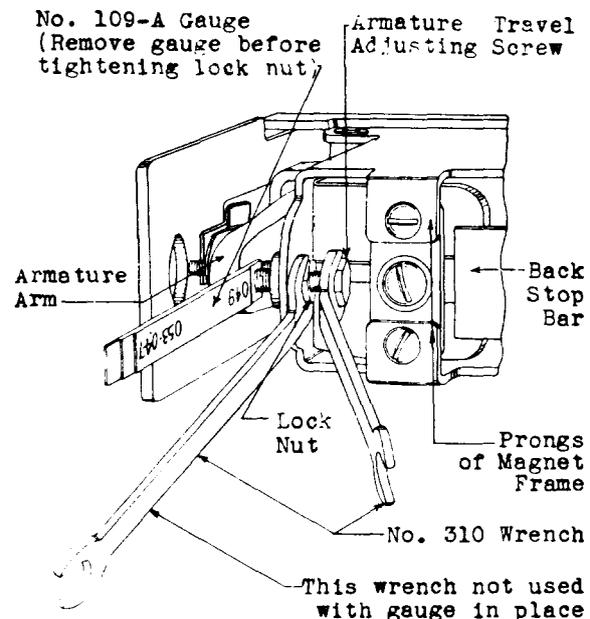

Fig. 17 - Method of Adjusting for Armature Travel
(1) If the armature travel is not satisfactory, loosen the lock nut on the armature travel adjusting screw with the No. 310 wrench. Insert the .049" portion of the No. 109-A gauge between the armature travel adjusting screw and the armature arm as shown in Fig. 17 with the relay electrically operated and turn the armature travel adjusting screw in a clockwise direction with the No. 310 wrench until the gauge fits tightly. Remove the gauge and tighten the lock nut securely as shown in Fig. 17 with another No. 310 wrench while holding the screw in position with the wrench used to turn it.